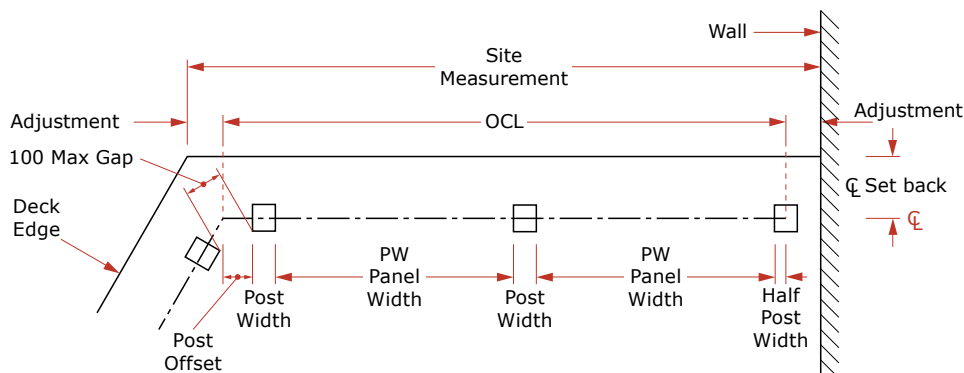

FIG. 1
The Panel Width (PW) is a dimension between the faces of adjacent posts, measured along the rail centreline (see Fig. 1 previous Page).
From the OCL, and the maximum post centres determined in step 1.3, calculate the PW of each panel (see Fig. 1 previous Page), taking into account the post width and the post offsets on the corners.